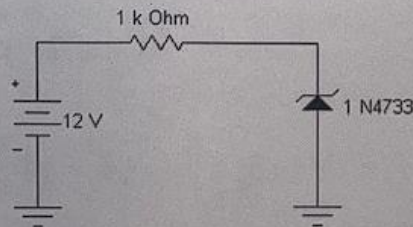

Figure 1
*(Figure 1) Multisim Zener Voltage Regulator circuit.*
- 1- Build the circuit shown in figure 1.